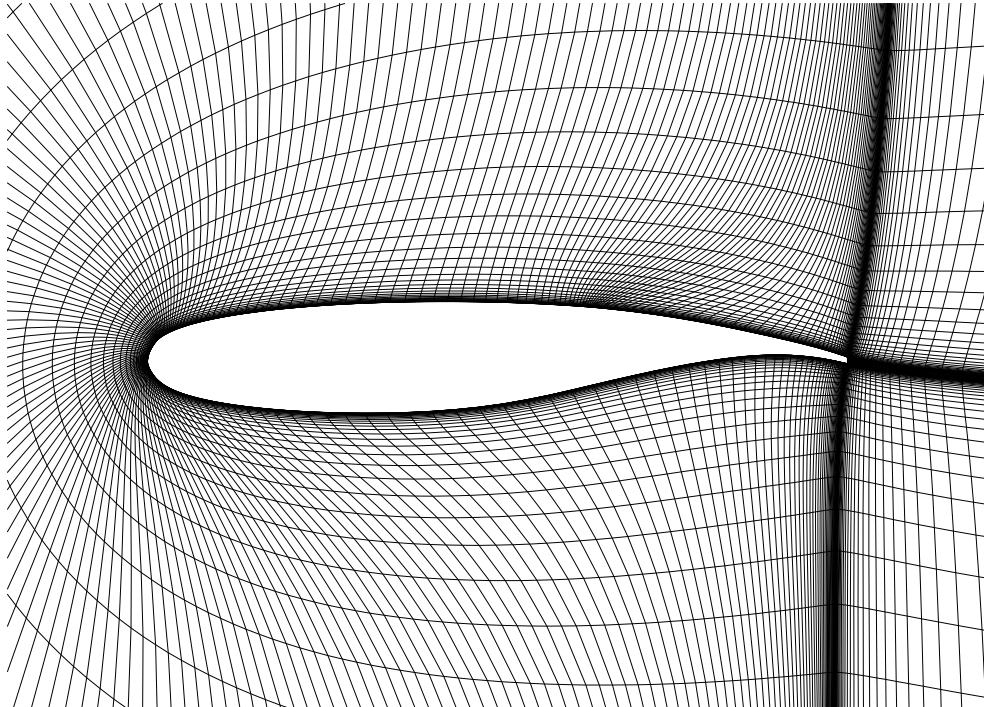

Figure 6.12: Smoothed grid for Test Case 4
6. Elliptically smoothed H-grid plot (figure 6.12)